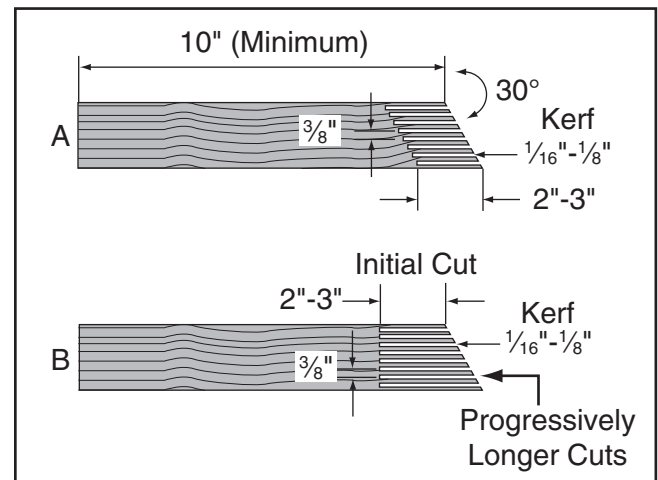

Figure 67. Patterns for featherboards (top view shown).
3. Make a series of end cuts with the grain $\frac{3}{8}$ "- $\frac{1}{4}$ " apart and 2"-3" long, as shown in **Figure 67 (A)**. Alternatively, start cuts at 2"-3" deep, then make them progressively deeper, as shown in **Figure 67 (B)**.